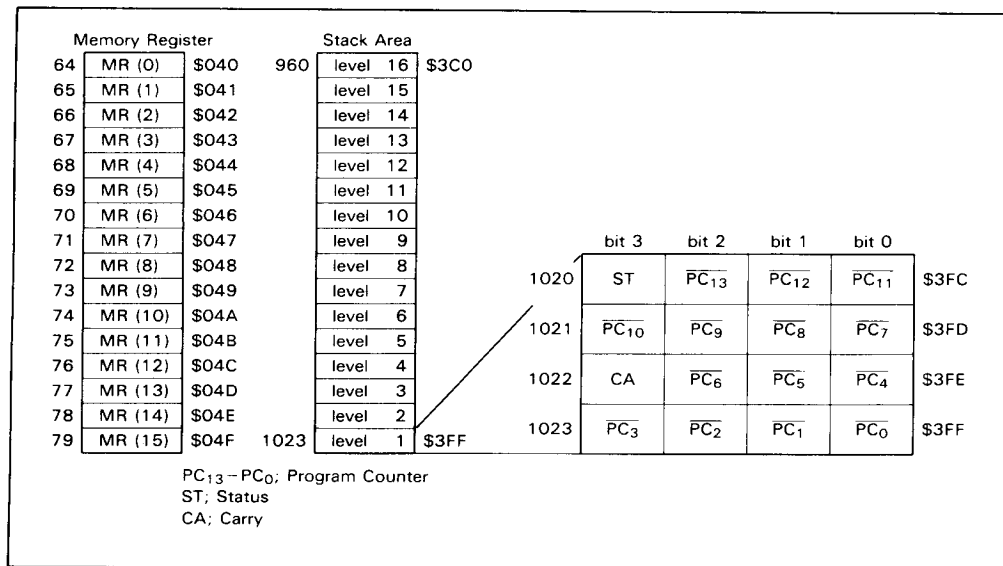

Figure 4. Configuration of Memory Register, Stack Area and Stack Position
Data area (\$040 to \$01FF): The memory register (MR), 16 addresses deep (\$040-\$04F), can be accessed by the LAMR and XMRA instructions (figure 4).
Stack area (\$03C0 to \$03FF): The stack area is used for saving the contents of the program counter (PC), status (ST), and carry (CA). This area can be used as a 16-nesting-level subroutine stack in which one level requires 4 digits. The data to be saved and save conditions are shown in figure 4. The program counter is restored by the RTN and RTNI instructions. Status and carry are restored by the RTNI instruction only. Any space not used is available data storage.